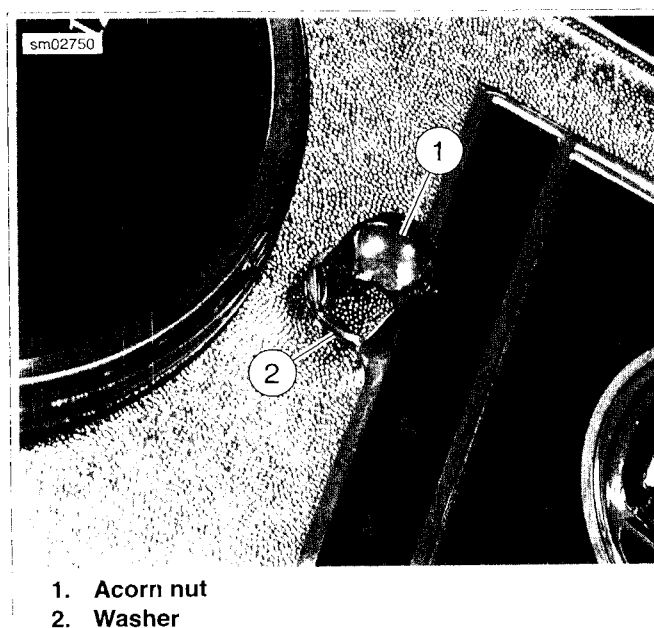

Figure 4-5. Instrument Console
- a. **All but FXCWC:** see Figure 4-5. Remove acorn nut (1) and washer (2) on instrument console to separate console from fuel tank.
8. See Figure 4-5. Install instrument console with acorn nut and washer. Tighten to 7-11 ft-lbs (9.5-14.9 Nm).